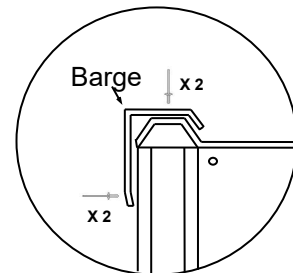

fig.3
- Rivet the Barge Flashing to the roof and the side wall, using two rivets on top of barge and two into the side (**fig.3**).